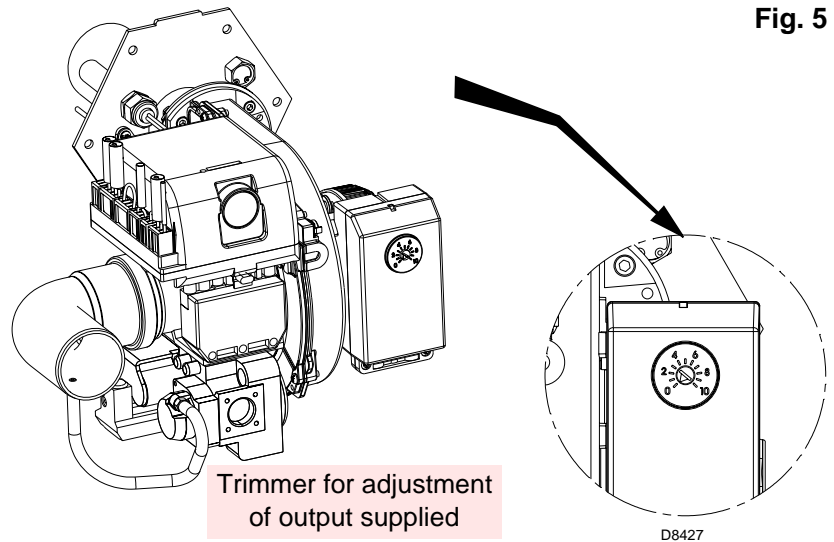

Fig. 5
3.7 FAN ADJUSTMENT, (see fig. 5)
Check the output supplied, which must correspond with that requested by the oven used. To increase or decrease its value, adjust the trimmer located on the control box (fig. 5).